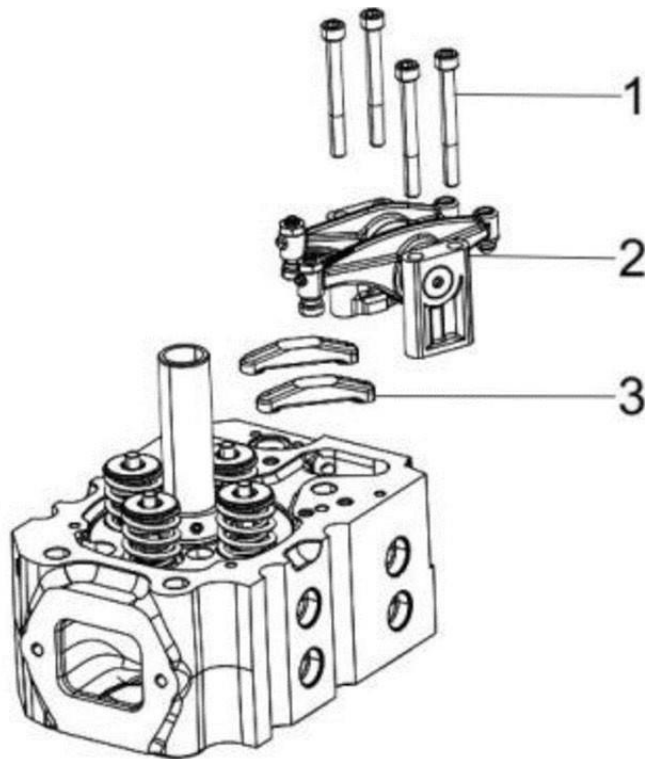

Figure 57. Rocker Arm
1. Remove the bolts (Figure 57, item 1) that retain the rocker arm shaft support.
2. Remove the rocker arm shaft assembly (Figure 57, item 2) from the cylinder head.
3. Remove the valve bridge (Figure 57, item 3).